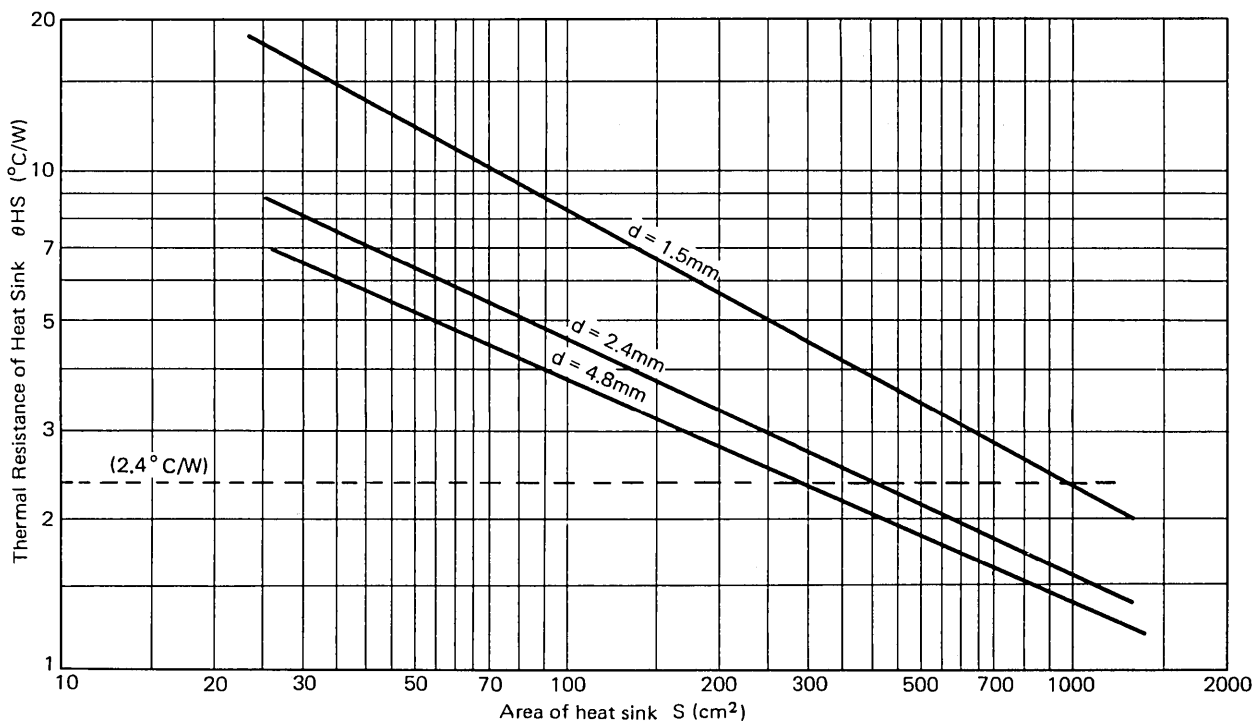

Fig. 19 Thermal resistance value of heat sink (Aluminum plate)
The thermal resistance of the TO-220 type package $\theta_{J-C} \approx 4^{\circ}\text{C/W}$ between junction and case and $\theta_{J-A} = 83^{\circ}\text{C/W}$ between junction and air. Accordingly, without heat sink, the package should be operated at less than 1.2 W of power dissipation. When the dissipation exceeds 1.2 W, a heat sink is necessary to operate the regulator within the maximum ratings. Fig. 19 is a graph showing the relation of area S (cm²) and thickness d (mm) of the aluminum plate used as a heat sink vs its thermal resistance value.
(3) Method of determining the heat sink size
From equation (20), the designed parameters can be satisfied by using a heat sink of 2.4 °C/W. If no suitable heat sink is available on the market, its size can be determined referring to Fig. 19. The dotted line of 2.4 °C/W thermal resistance intersects the solid line of $d = 4.8 \text{ mm}$ at $S = 280 \text{ cm}^2$ in Fig. 19. Thus, an aluminum plate of d (thickness) = 4.8 mm, S (area) = 145 cm² has the required thermal resistance value. When $d = 2.4 \text{ mm}$, $S = 430 \text{ cm}^2$ and when $d = 1.5 \text{ mm}$, $S = 970 \text{ cm}^2$ in the same way as above. It is necessary to design an optimum heat sink to use the 3-terminal regulator normally, referring to the above examples. As design references, the recommended operating conditions of μPC7800H series are shown in Table 7.